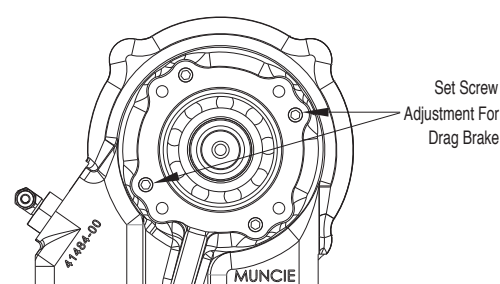

Figure 15 – Drag Brake Adjustment
9. Remove the hose (40) with a  $\frac{7}{16}$ " wrench. *See Figure's 13 & 14.*
10. Remove the four socket capscrews (50) using a  $\frac{1}{4}$ " Allen wrench. Proceed to remove the bearing cover (51). *See Figure 15*
11. Locate the adjustment screws (42) on the inside of the PTO housing (37). *See Figure 15*
12. Using a  $\frac{3}{16}$ " Allen wrench, turn each of the set screws (42)  $\frac{1}{4}$  turn clock-wise to increase the drag brake.
13. Move away from under the vehicle and away from possible moving components and restart the engine. Look for the output shaft (10) to stop turning. If the shaft continues to turn, then shut off the engine and repeat steps 11-13.